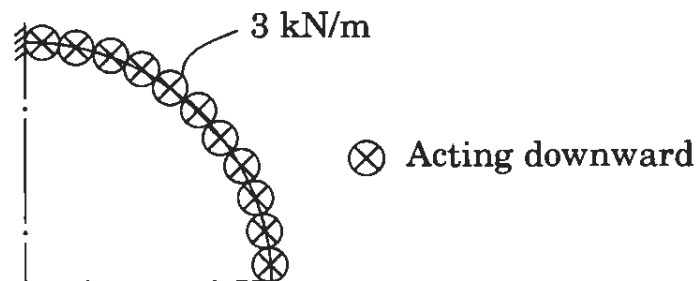

Figure 7
- (1) Absolute volume of fully compacted fresh concrete (ignoring air content) produced by one bag of cement of 50 kg. 10
- (2) Cement content per cubic metre of concrete. 5
- (3) Quantity of materials to make one cubic metre of concrete. 5
- (c) Compute and draw the vertical shear, bending moment and torque diagrams of the cantilever circular bow girder shown in Figure 7 in the shape of a quadrant of a circle of radius 3 m and carrying a uniformly distributed load of 3 kN/m (normal load). The girder lies in the horizontal plane. 20